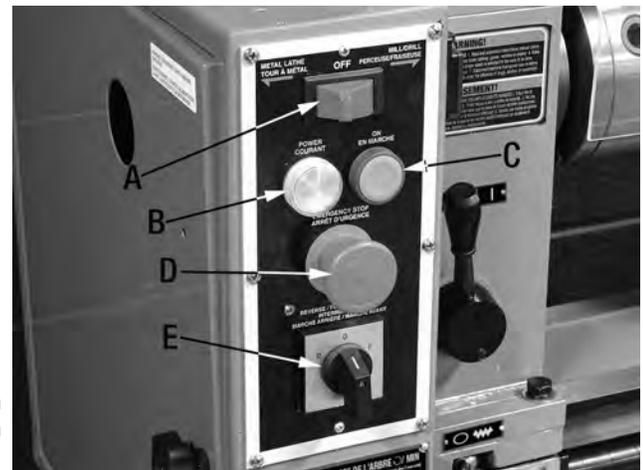

FIGURE 8
**Lathe/OFF/Mill Selector Switch (A) Fig.8.-**
**Power Indicator (B) Fig.8.-**
**On Switch (C) Fig.8.-**
**Emergency Stop Button (D) Fig.8.-**
**Forward/Reverse Switch (E) Fig.8.-**